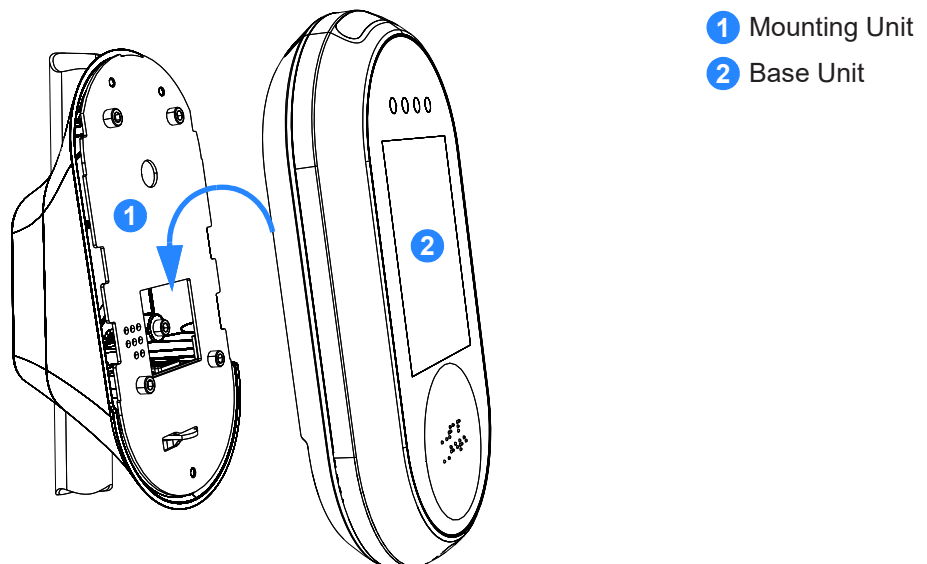

Figure 3-51 Slide Base Unit on Mounting Unit
Step 5 Put the base unit on the mounting unit, see **Figure 3-51**.